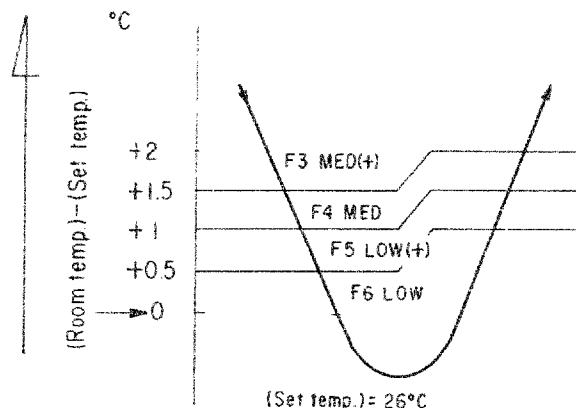

Fig. 1 Auto setting of air volume
- (1) Fan operation (the remote control MODE button is set to the FAN ONLY position).
- When the FAN SPEED button is set to the AUTO position, the indoor fan motor operates as shown in Fig. 1. When the FAN SPEED button is set to LOW, MED, or HIGH, the motor operates with a constant air volume as listed in Table 1.